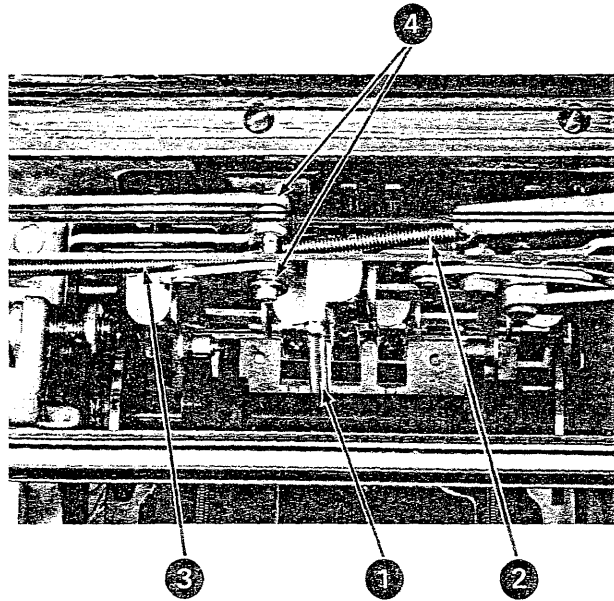

Figure 4-28. Tilt-Selection-Differential Removal (Steps 8-11)
8. Remove the positive-bail spring (No. 1, Figure 4-28).
9. Remove the tilt-differential spring (No. 2, Figure 4-28).
10. Remove the rotate-arm spring (No. 3, Figure 4-28).
11. Remove the two C-clips and remove the tilt-differential assembly (No. 4, Figure 4-28).